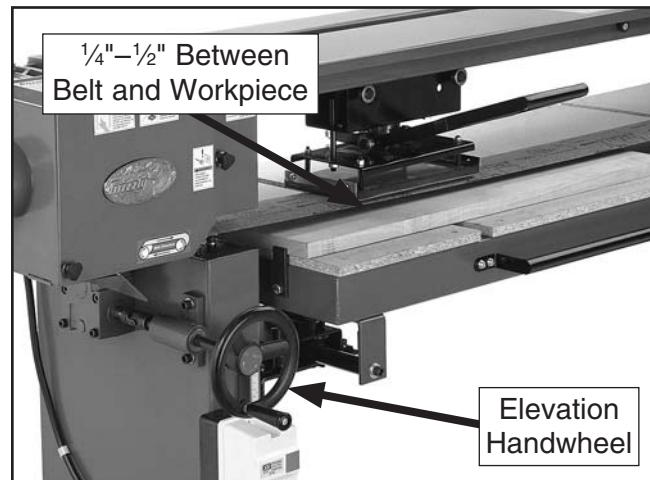

Figure 33. Vertical table movement.
2. Turn the table elevation handwheel to raise the table until the workpiece is $\frac{1}{4}$ "– $\frac{1}{2}$ " below the sanding belt (Figure 33).